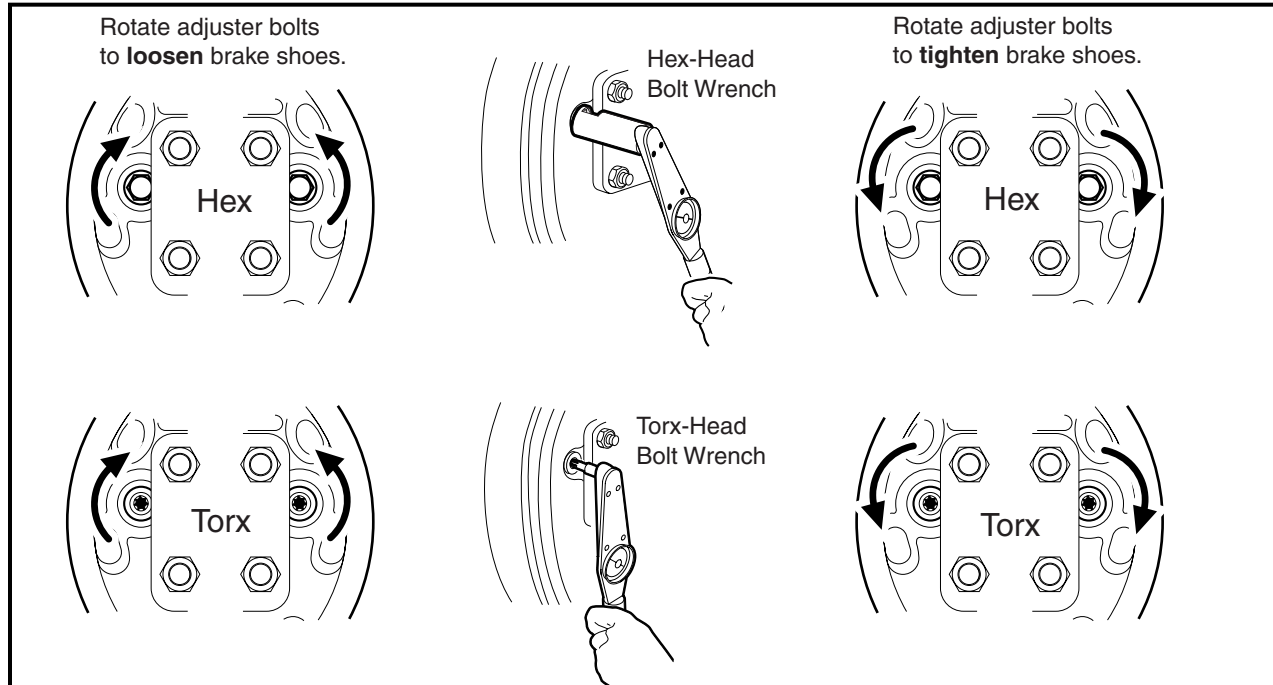

Figure 6-14 Loosen or Tighten Brake Adjusters
- 9.2. Use a torque wrench and a Torx #27 driver, or hydraulic brake adjuster (CCI P/N 102169401), and gently rotate the adjuster bolts to increase the clearance between the brake shoe lining and the brake drum (**Figure 6-14, Page 6-16**). **See following NOTE.**
18. Install the dust cover (1).
19. With the brake drum properly seated and secured, use a torque wrench with a Torx #T-27 driver, or hydraulic brake adjuster (CCI P/N 102169401), and gently adjust the clearance between the brake shoes and brake drum by turning each of the two adjuster bolt heads on the back of the brake cluster plate (**Figure 6-14, Page 6-16**). **See following CAUTION.**
2. Use a torque wrench and a Torx #T-27 driver, or hydraulic brake adjuster (CCI P/N 102169401), and gently rotate the adjuster bolts to increase the clearance between the brake shoe lining and the brake drum (**Figure 6-14, Page 6-16**). See following **NOTE**.
4. With the brake drum properly seated and secured, gently adjust the clearance between the brake shoe lining and brake drum (**Figure 6-14, Page 6-16**). See following **CAUTION**.